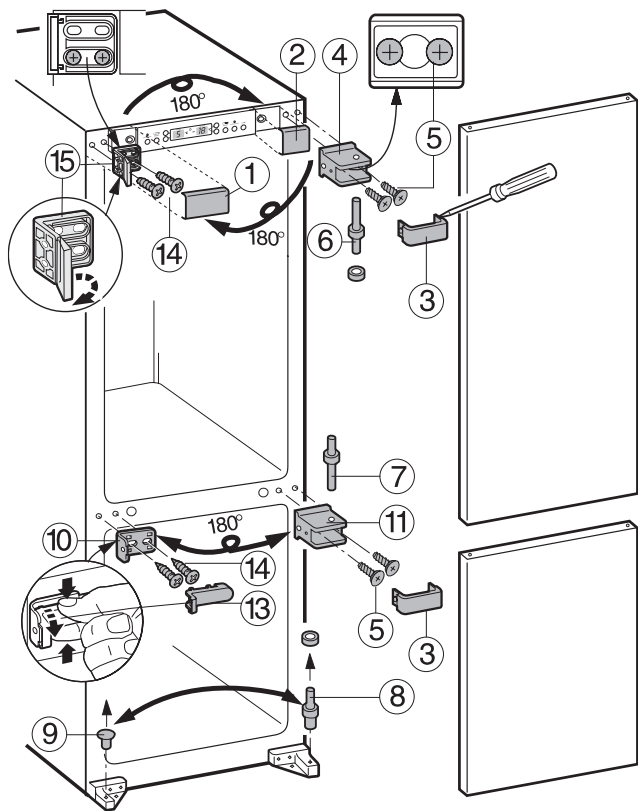

Figure 10
Reversing Door Hinges - Figure 10
1. Pull off the covers (Fig. 10, 1) and (Fig. 10, 2).
2. Open bracket (Fig. 10, 15) and remove screws (Fig. 10, 14). When installing into the kitchen cabinet, replace bracket on the opposite side using the same screws.
3. Using caution, press in the side of the hinge covers (Fig. 10, 3) with a tool and remove covers.
4. Unthread the outside screw (Fig. 10, 5) in the hinge, halfway. Remove the inside screw completely.
5. Open the top door slightly. Push the door and hinge (Fig. 10, 4) out and remove simultaneously.
6. Remove the hinge pin (Fig. 10, 7). Pull out the bottom door and remove.
7. Remove the plug (Fig. 10, 9).
8. Transfer the hinge pin (Fig. 10, 8) to the other side.
9. Remove the bracket (Fig. 10, 10) and cover (Fig. 10, 13) by pressing the cover together, then tilt out the bottom. When installing into the kitchen cabinet, replace on the opposite side using the same screws.
10. Remove the center hinge screws (Fig. 10, 5). Remove the center hinge (Fig. 10, 11). Rotate hinge 180° and install on the opposite side using the same screws. Thread the outside screw halfway in. Attach the hinge through the keyhole-shaped hole and slide in. Tighten both screws.
11. Place the bottom door on the hinge pin (Fig. 10, 8). Close door and insert the center hinge pin (Fig. 10, 7) with the longer side down. Be sure washers are in place.
12. Place the top door on pin (Fig. 10, 7) and close door.
13. Place the top hinge (Fig. 10, 4) together with pin (Fig. 10, 6) with the longer side up in the door mounting hole. Tilt the door away slightly and suspend the hinge on the screw (Fig. 10, 5). Slide the door in and tighten both screws.